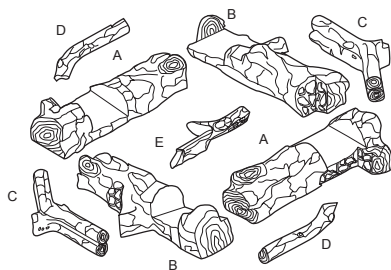

Figure 46 - Log Set (9 Pieces)
4. Figure 46 shows log set. Logs "A" have the knot at end of log. Logs "B" have the knot at middle of log. Twigs "C" have the shape of a "Y". Twigs "D" have the shape